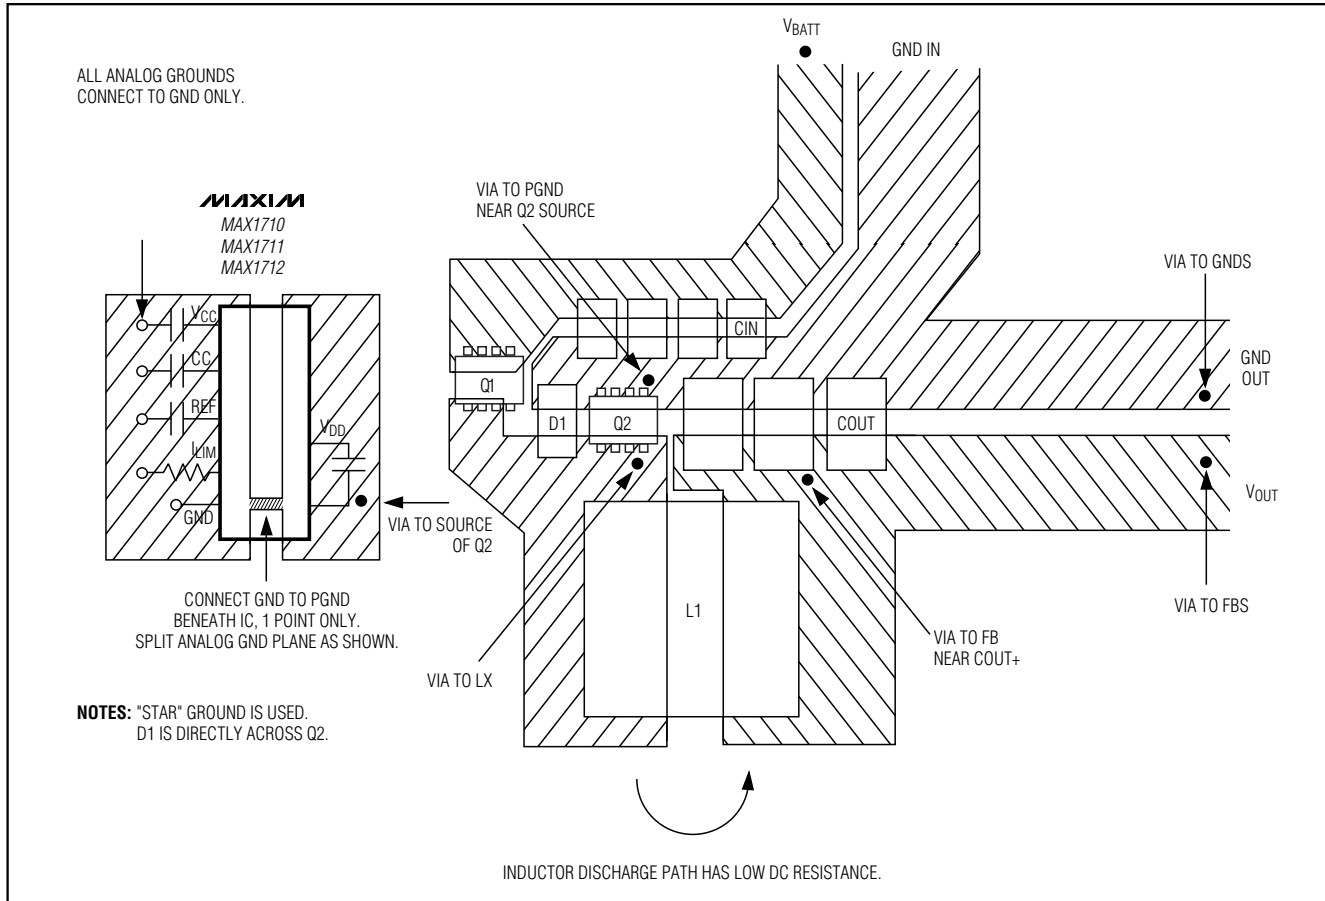

Figure 11. Power-Stage PC Board Layout Example
Careful PC board layout is critical to achieving low switching losses and clean, stable operation. The switching power stage requires particular attention (Figure 11). If possible, mount all of the power components on the top side of the board with their ground terminals flush against one another. Follow these guidelines for good PC board layout:
- 4) Make the DC-DC controller ground connections as shown in Figure 11. This diagram can be viewed as having three separate ground planes: output ground, where all the high-power components go; the PGND plane, where the PGND pin and V_{DD} bypass capacitor go; and an analog GND plane, where sensitive analog components go. The analog ground plane and PGND plane must meet only at a single point directly beneath the IC. These two planes are then connected to the high-power output ground with a short connection from V_{DD} cap/PGND to the source of the low-side MOSFET, Q2 (the middle of the star ground). This point must also be very close to the output capacitor ground terminal.